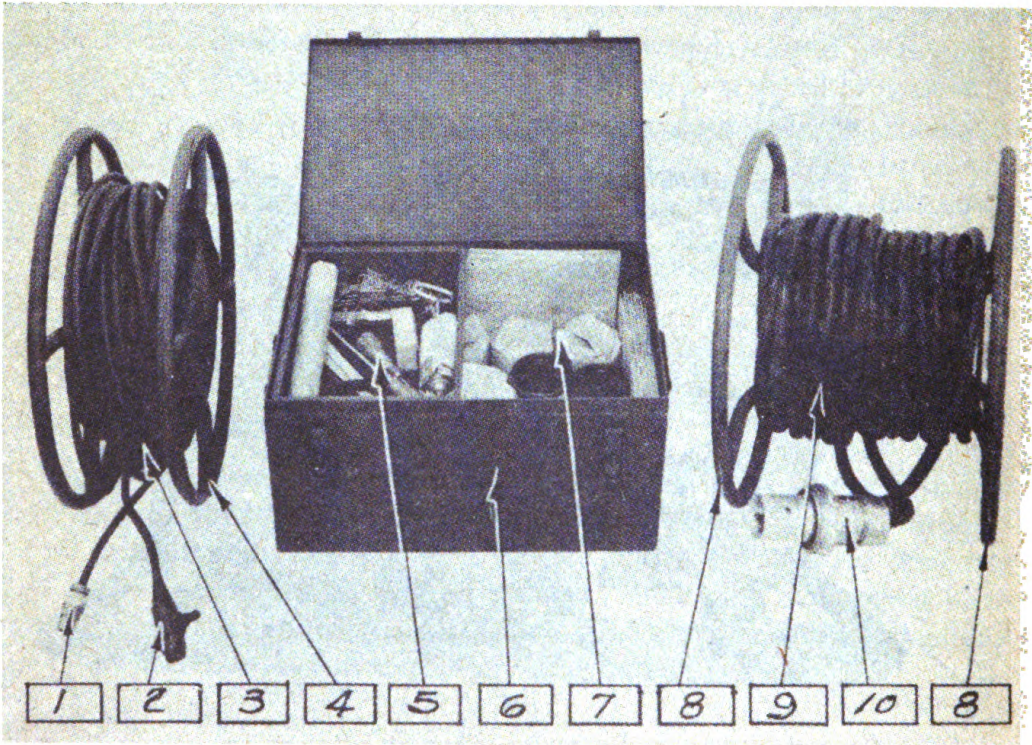
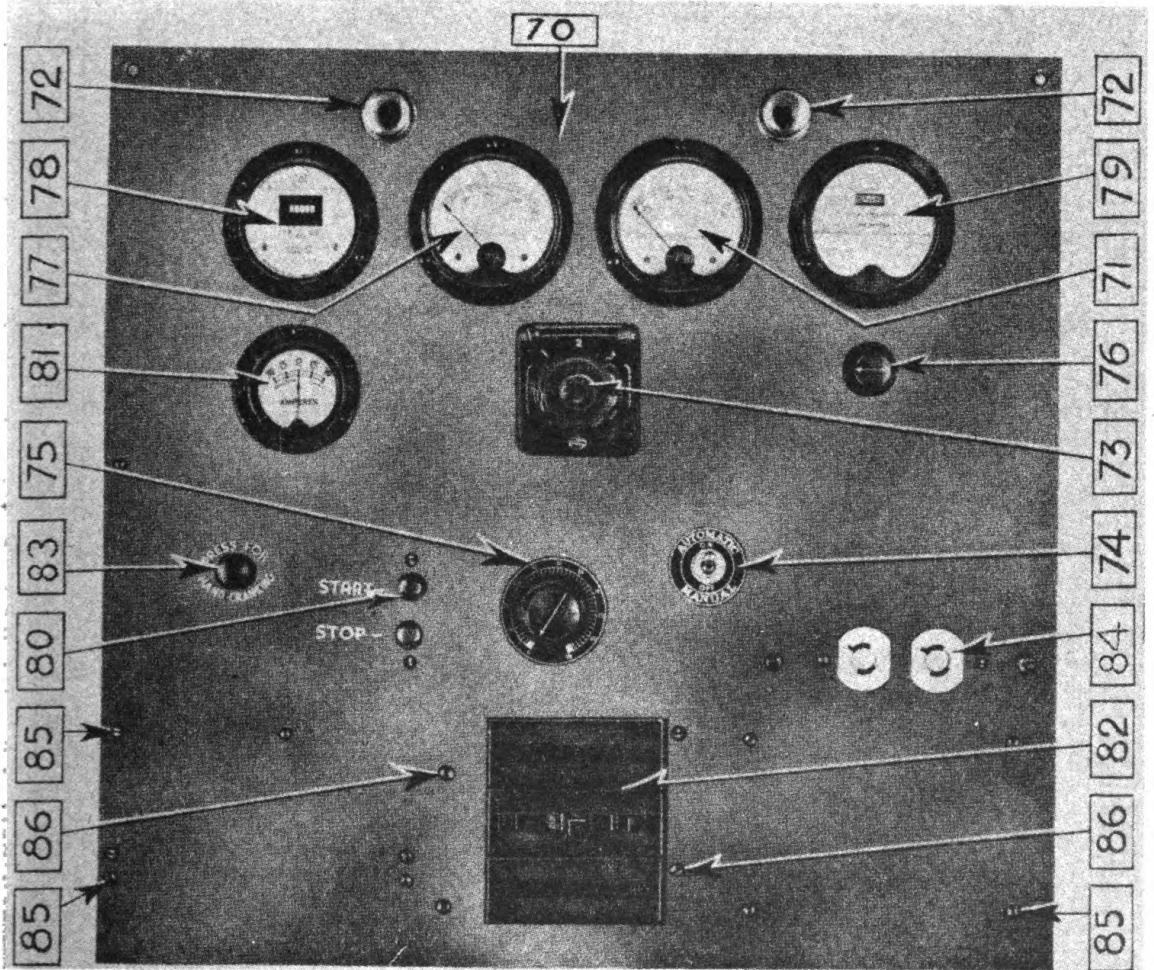

FIGURE 5.—Cable reels, tool box.
FIGURE 7.—Instrument panel, front view.
j. **Panel Board.** (Figures 7 and 8)
- (1) The panel board mounted inside the control cabinet is for the purpose of concentrating at one point all of the controls and instruments used in connection with the operation of this unit. All such functions as starting, stopping, applying load, etc., originate at this control panel.
- (2) The instruments and controls mounted on this panel, as indicated on Figure 7, and their functions are as follows:
- (a) Voltmeter (77) is for measuring the electrical pressure being developed by the A.C. Generator. This is normally 120 volts.
- (b) The Frequency Meter (78) is for measuring the frequency in cycles of the A.C. Generator. This is normally 60 cycles.
- (c) The Elapsed Time Meter (79) indicates the total hours the unit has been in actual operation.
- (d) Panel Lights (72) are for lighting the panel in darkness.
- (e) Voltmeter Selector Switch (73) is for transferring the reading of the Voltmeter (77) from one phase to another of the A.C. Generator.
- (f) Battery Charging Ammeter (81) measures the charging current being supplied by the battery generator.
- (g) Start-Stop Switch (80) is for starting and stopping the unit.
- (h) Exciter Field Rheostat (75) is for manually controlling the terminal voltage of the A.C. Generator. Turning to right increases voltage; turning to left decreases voltage.
- (i) Voltage Regulator Switch (74) is for placing the automatic voltage regulator in operation. When this switch is on, the voltage is automatically controlled; when this switch is off, the voltage is controlled manually by the Field Rheostat (75).
- (j) Main Circuit Breaker (82) is for connecting and disconnecting the generator to and from the main output receptacle or terminal block.
- (k) Voltage Regulator Control Rheostat (76) is for adjusting the automatic voltage regulator to maintain the desired voltage.
- (l) Manual Reset Control (83) is used for tripping the stopping relay in case it is desired to crank the unit manually.
- (m) Duplex Convenience Receptacle (84) is for convenience in taking comparatively light loads from the unit without using the main power cable.
- (n) A.C. Ammeter (71) is for the purpose of measuring the current flow in each phase of the A.C. Generator. Full load on this unit is 36 amperes, and it should not be operated under any circumstances when these meters read in excess of this value.
- (1) This structure is of welded steel construction and may be removed in its entirety from the unit proper by disconnecting the wires from the terminal blocks and removing the four bolts by which it is attached to the base assembly.
- (2) The following parts are attached to this structure and their descriptions and functions are as follows:
- (a) Main Power Receptacle (No. 110, Fig. 2) is for the purpose of delivering the full power developed by this unit. The Plug (No. 10, Fig. 5) which is attached to the end of the main power cable fits this receptacle and should be used at all times, except when using a cable not fitted with this type plug. Then it is permissible to take full power from the unit from the output terminal studs (No. 143, Fig. 2) located on the right-hand under side of this structure.
- (b) Remote Control Receptacle (No. 113, Fig. 3) is for connecting the remote control power cable (No. 3, Fig. 5) to the unit. This cable has a plug attached which fits this receptacle. This connection should always be used, except in cases where a remote power cable is used not incorporating the proper plug. Under these conditions, the cable may be attached directly to the remote control terminal block located on the left lower side of the main control cabinet structure.
- (4) After permitting the electrolyte solution to cool all of the battery cells should be equalized by the addition or removal of electrolyte. If the reading of a cell is found to be high, remove electrolyte and add distilled water to equalize the solution with that in the other cells. If the reading of any cell is found to be low, remove some of the solution and add 1300 electrolyte until that cell has been equalized with the other cells of the battery. Place the battery back on charge for a few hours after equalizing the cells to thoroughly mix the solution. After allowing the battery to cool, it may be placed in service.
- l. Should it become desirable to control the voltage manually, the automatic voltage regulator can be rendered inoperative by switching the voltage regulator switch to OFF. This will make it possible to entirely control the voltage by means of the exciter field rheostat Fig. 7 (75). Turning the rheostat to the right will increase the voltage while turning it to the left will decrease the voltage.